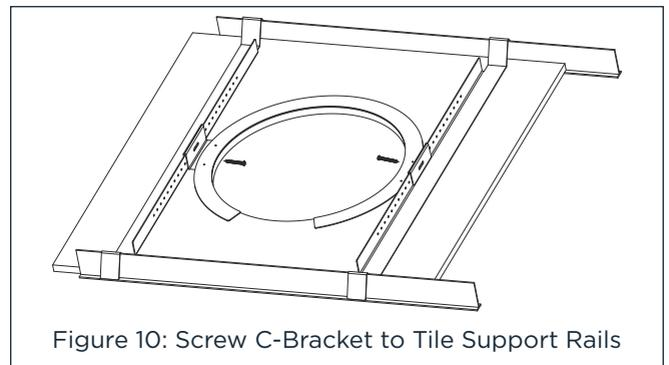

Figure 10: Screw C-Bracket to Tile Support Rails
1. The included C-bracket and tile support rails should be used in all suspended ceiling installations. The C-bracket and tile support rails can also be used in installations when the loudspeakers are mounted into material that will not support their weight. Insert the two tile support rails and C-bracket through the hole you have cut, placing them as shown. Using the two screws that are supplied, screw the C-bracket to the tile support rails as shown (see Figure 10 and 11). After the C-bracket and tile support rails are installed follow Step 2 through 8 in the previous installation instructions.